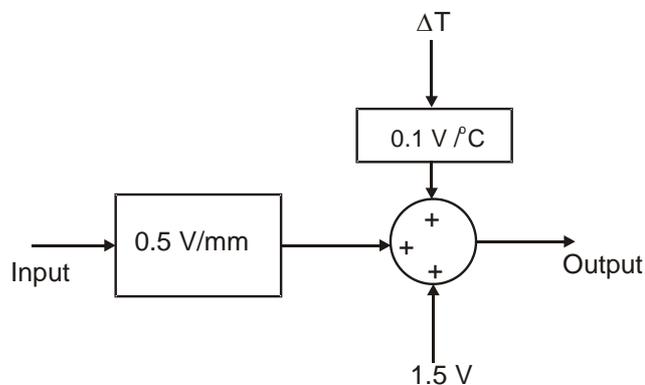

Figure Q4(a)
- Q4 (a) A displacement measuring system may be represented by the following system diagram, Figure Q4(a).
With reference to Figure Q4(a):